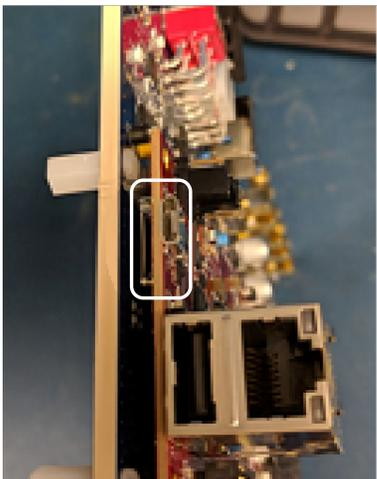

Figure 6. MicroSD Card Slot in MicroZed Board
2. Insert the **Apollo v1.9** microSD card into the slot in the MicroZed board and ensure to face the contacts of the microSD card upwards. See Figure 6 for additional details.